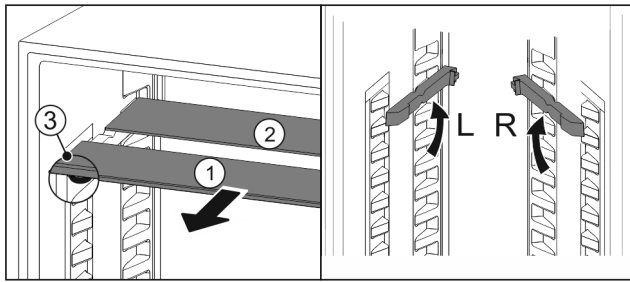

Fig. 73
- Pull the glass panels out Fig. 73 (1) from the front, one at a time.
- ▷ The glass panel Fig. 73 (1) and trim strip are at the front.
- ▷ The stops Fig. 73 (3) point down.